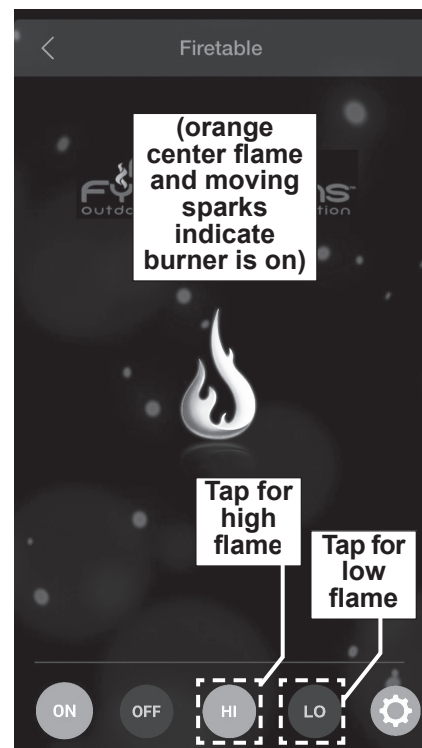

Fig. 43-1 Remote Operation:
1. Locate the control panel on the side of the unit (refer to the IDENTIFICATION PARTS LIST if needed), and identify the **AUX CONTROL** and **POWER** buttons (see Fig. 43-1).
3. From within the app, proceed to the Devices screen and select your unit. The remote screen will appear. See Fig. 43-1.
4. Tap the **ON** icon found on the bottom left of your remote screen (see Fig. 43-1).
The flame height can be adjusted via the remote app. Tap the **HI (high)** button to increase the flame height. Tap the **LO (low)** button to decrease the flame height. See Fig. 43-1. (LO setting available after 60 seconds.)
To shut down the burner (system will remain on), tap the **OFF** icon found on the bottom left of your remote screen. The screen will no longer display the orange center flame and moving sparks. See Fig. 43-1. The **AUX CONTROL** button indicator light will also go off.
To shut down the burner and system (total shutdown), or if the remote app is unavailable, push the **POWER** button on the control panel. See Fig. 43-1. The **POWER** and **AUX CONTROL** button indicator lights will go off. (Fully power off when covering or when not in use.)